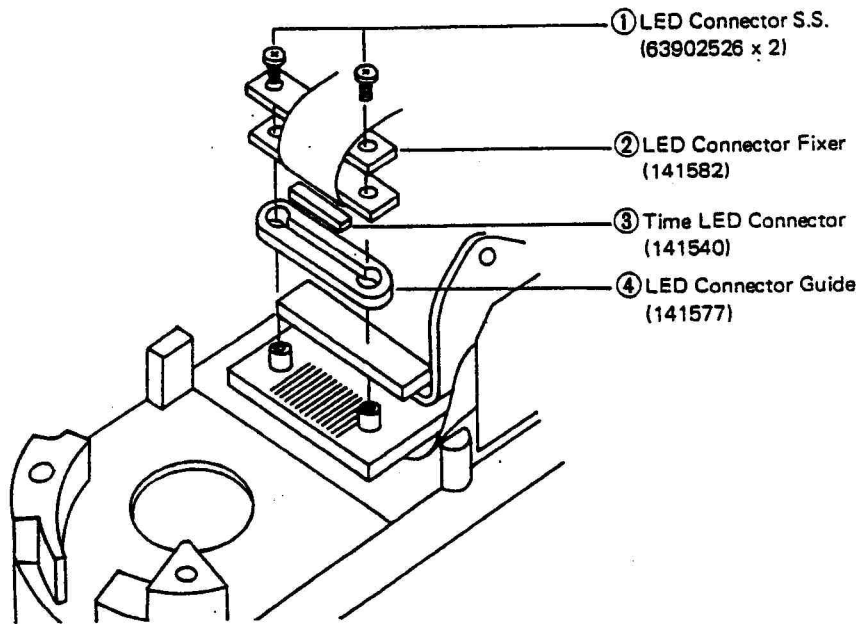

Fig. 54
e) Remove the respective parts ① ~ ④ shown in (fig. 54) in numerical order.